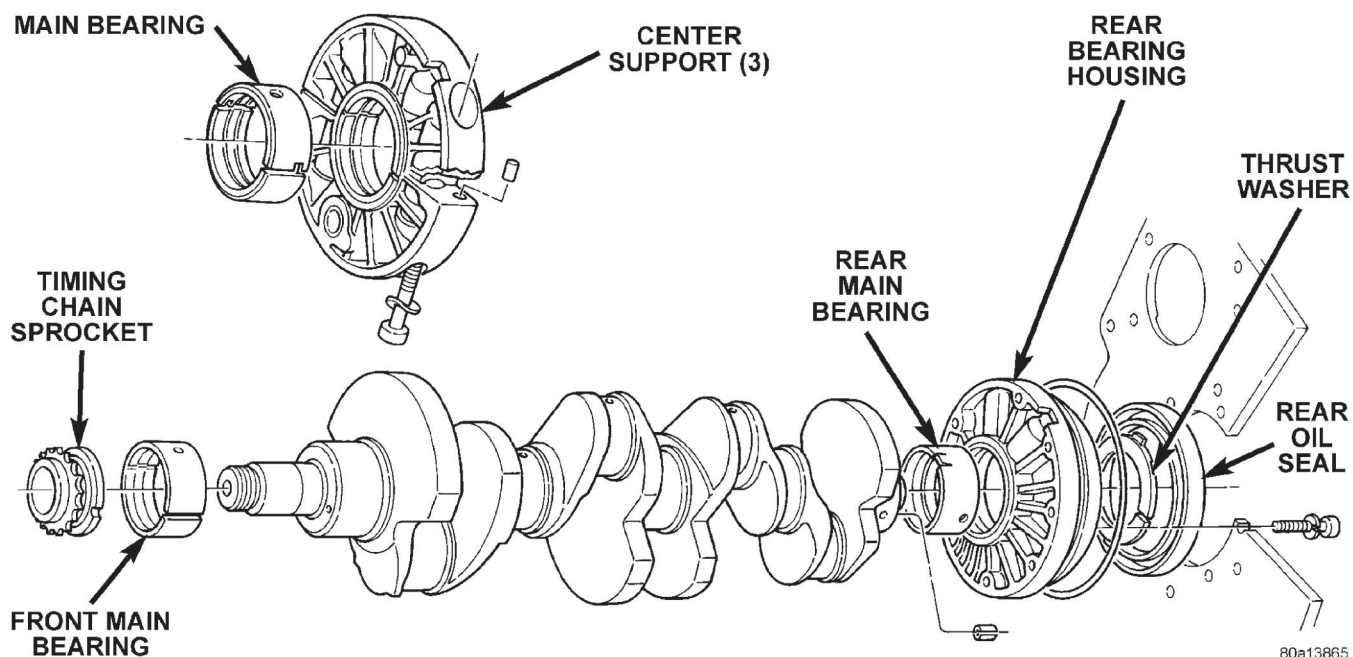

Fig. 53 Crankshaft and Bearings
- (19) Remove main bearing oil feed and carrier locators from block.
- (20) Remove flywheel and adaptor plate from engine block.
- (21) Remove thrust bearings from rear main bearing carrier (Fig. 53).